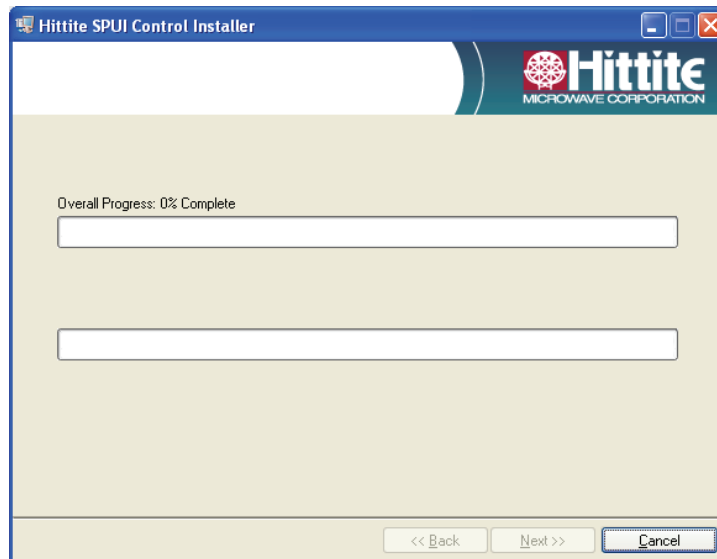

Figure 12. Software Installation Screen 2.
8. Figure 12 will appear as software begins installing on the PC.